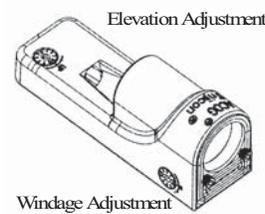

Figure 2-3 Reflex Sight
- D.1.c (1) (a) 4 Sight Setting for Firearms with Trijicon Reflex Sight. The Reflex sight is a dual-illuminated sight developed for the military, and used with both-eyes-open in close quarters combat. It gives quick target acquisition and eliminates the need to align front and rear sights. The sight uses tritium gas for illumination, and has no batteries. The Reflex has two adjustments to correct for elevation and windage (see Figure 2-3, page 2-17). To adjust the sight, use a 1/8-inch Allen hex key to turn the adjustment screw. The adjustment screw also has a screwdriver slot provided. A flat tip screwdriver, coin (e.g. dime, penny), or rim of a cartridge case fits in the slot.